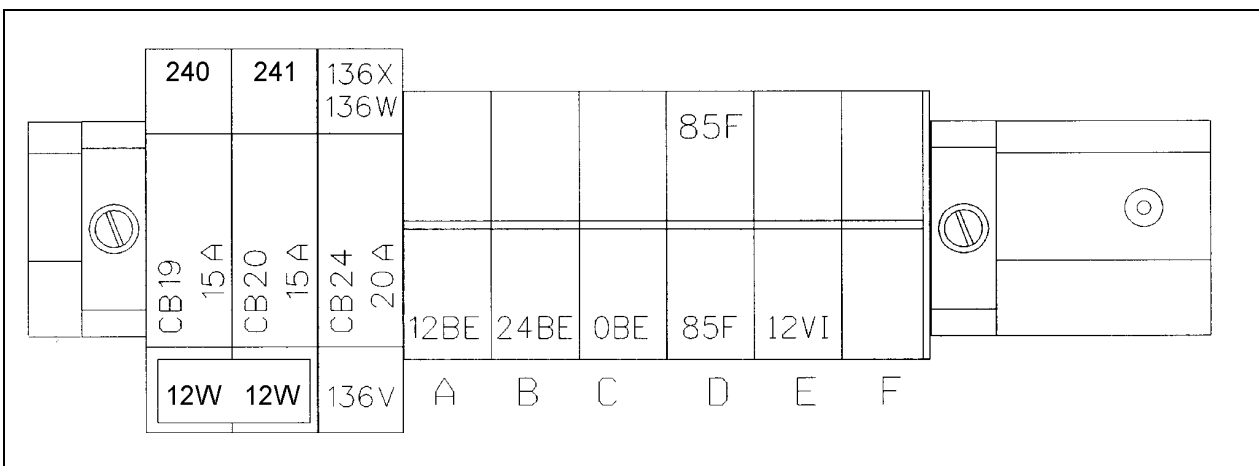

FIGURE 3 : BATTERY COMPARTMENT JUNCTION BOX AFTER MODIFICATION
2. Cut bus bar to be able to use it with two circuit breakers only. Move CB 19 and CB 20 circuit breakers to the right then reinstall fixing block. Connect 12W wires to bus bar terminals (refer to figure 3). Cut 440 wire previously connected to CB 21 circuit breaker.